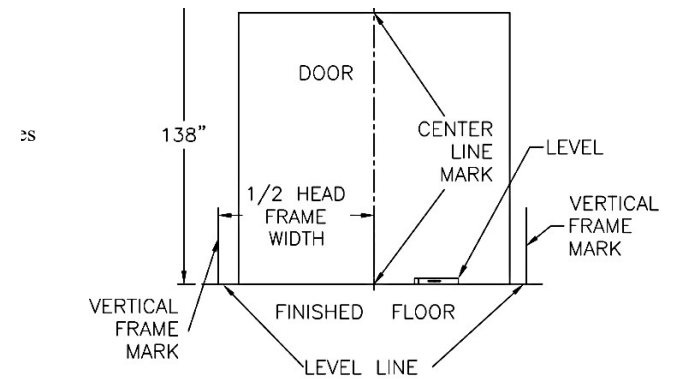

FIG 2
- a. Measure and mark center of dock door opening (Figure 2).